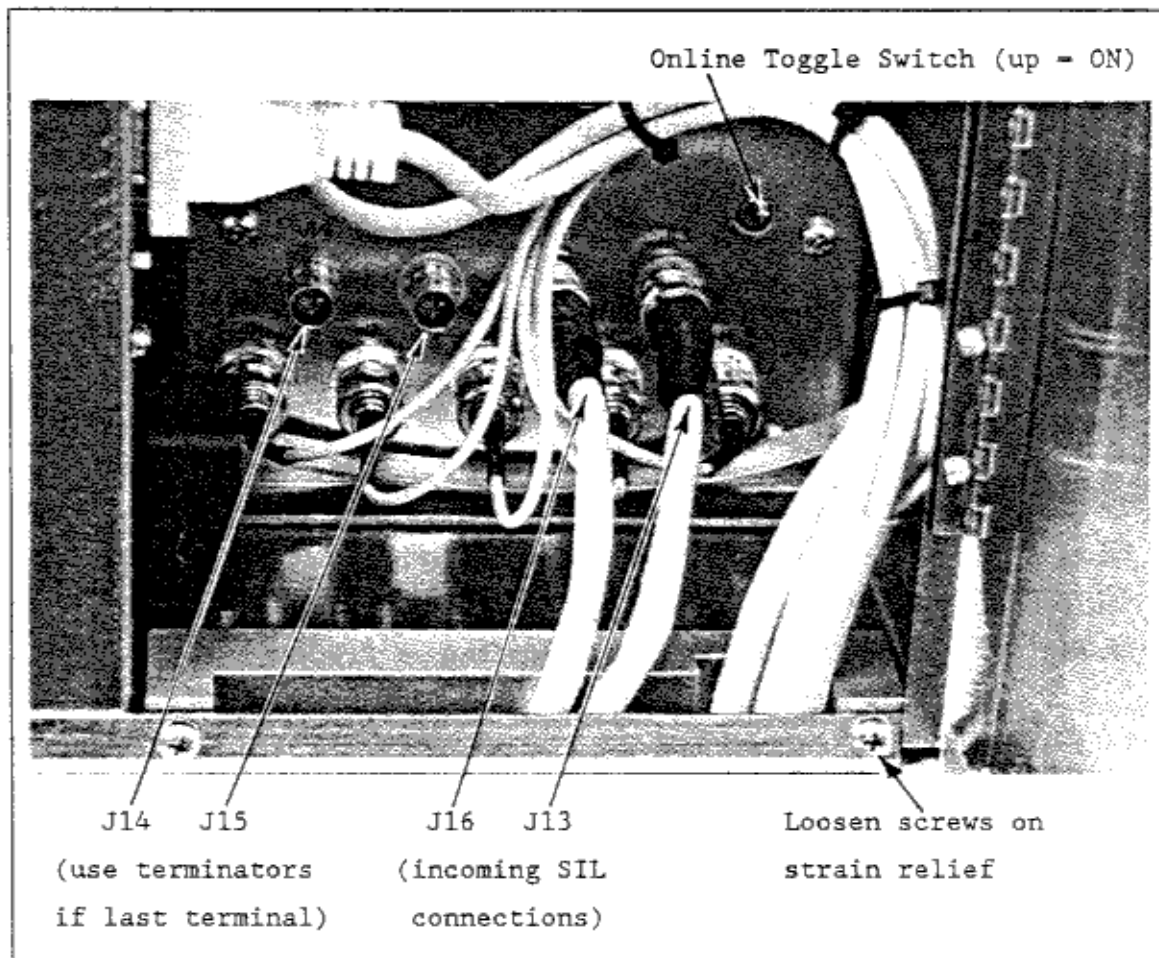

FIGURE 3-8 CONNECTING THE SIL CABLES
2. Open the rear door on the Processor Unit and, with a Phillips screwdriver, loosen the strain relief bracket (see Figure 3-8).